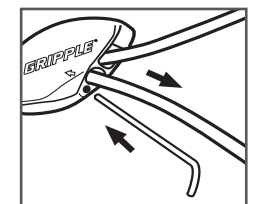

FIGURE 11: RELEASE CABLE
8. Insert key into small hole at bottom of Gripple. Push in 1/4" to release the cable. (See figure 11).